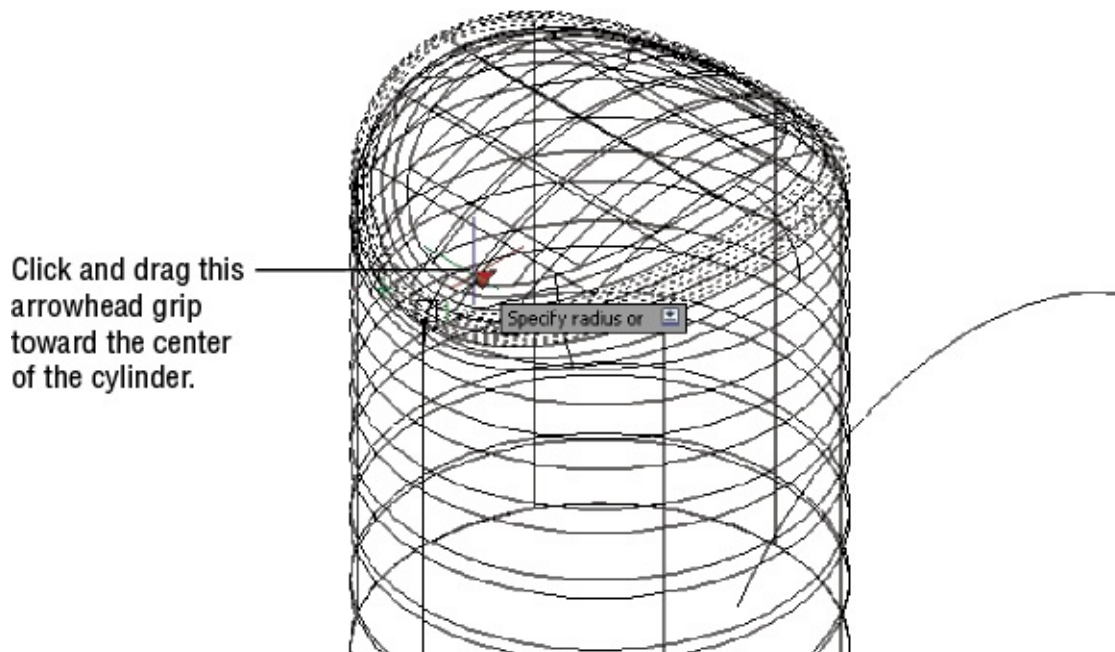

FIGURE 23.51 Adjusting the fillet radius
3. Zoom into the top of the surface model so that you have a view similar to Figure 23.51.